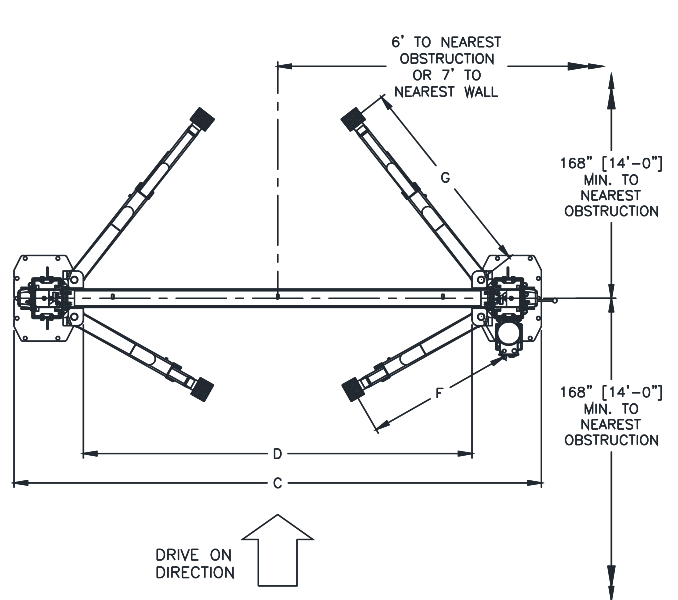

Fig 1b - Service Bay Layout
- Layout the service bay according to the architect's plans or owners' instructions (**see Fig 1b**). **Failure to install in this orientation can result in personal and property damage.** Be certain that the proper conditions exist, see page 3.